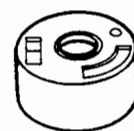

Fig.12.4
3. When inserting the pump case liner into the pump case, be sure to engage its projection correctly. (Fig. 12.4.)